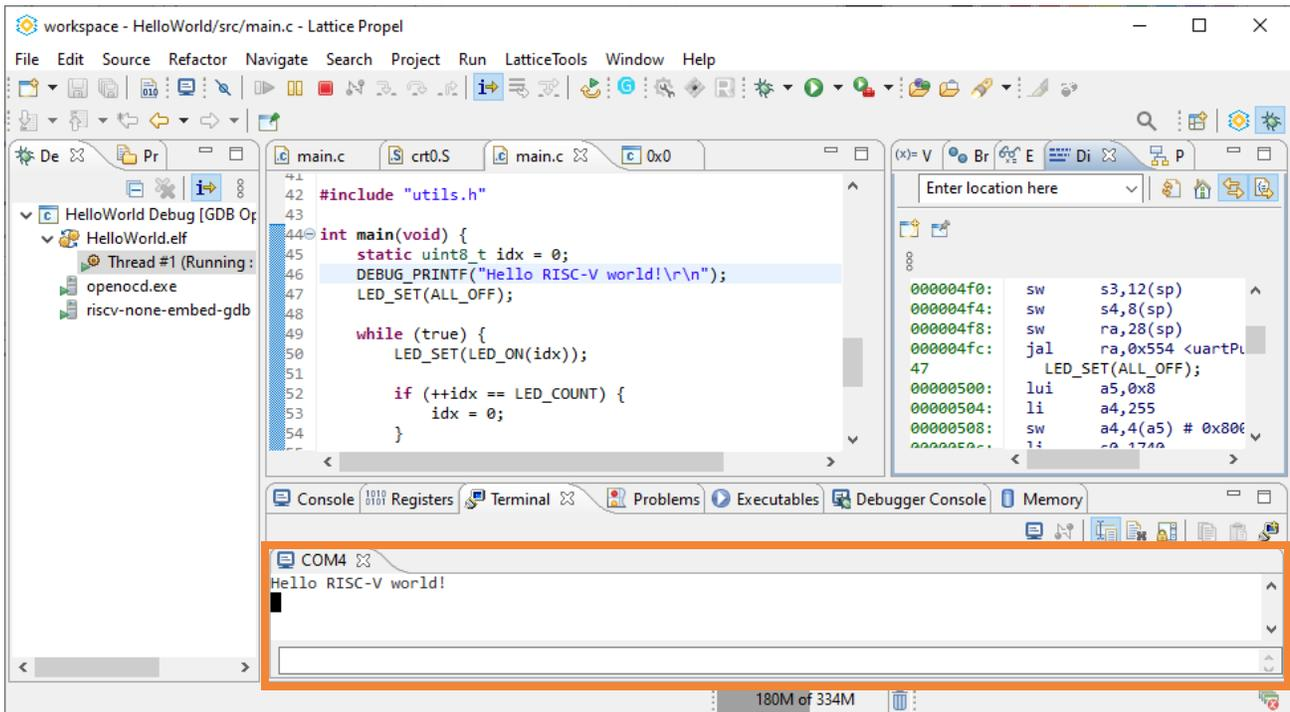

Figure 4.13. Run Result of Hello World Project
9. Click the **Resume** icon  on the toolbar. The serial terminal outputs “Hello RISC-V world!” (Figure 4.13).